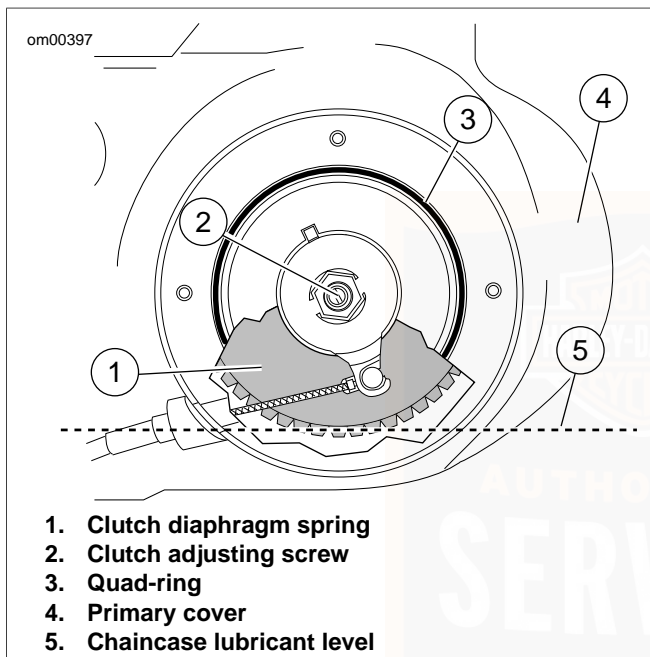

Figure 37. Chaincase Lubricant Level: Sportster Models
7. See Figure 37. Verify that lubricant level is even with bottom of clutch diaphragm spring.